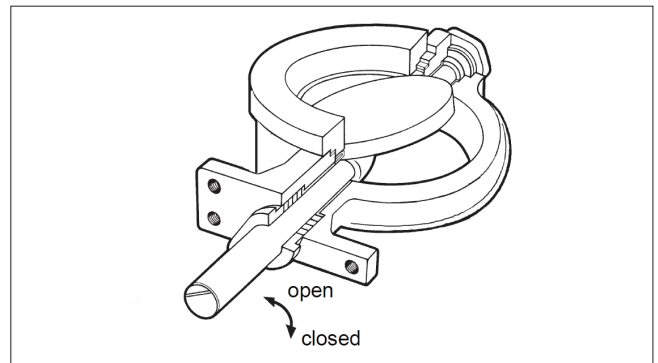

Fig. 13 Open and closed positions of the valve
The marking line parallel to the disc on the valve shaft head shows roughly the closed position of the disc (see Fig. 13). Pressure shocks can cause loosening of the pin connection between disc and shaft; consequently the shaft moves while the disc remains in place and this prevents full closing of the disc. If the reason for the leakage does not become apparent after doing the above, the valve must be disassembled for replacing the parts.
- Install the gasket (31) and the blind flange (8). Screws of the blind flange must be tightened evenly. An unevenly tightened flange will damage the seat.
- Install the body gasket (32) and the clamp ring (2). See details in Section 5.5.
- Check the contact line between the seat ring and the disc (see Fig. 13).